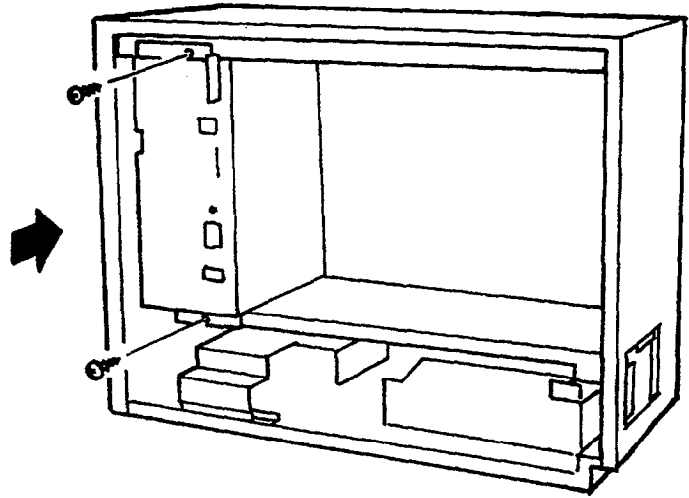

Figure 3-28 Installing the PSF-S-20 PSU in the Level II Basic KSU
1. Install the PSF-S-20 PSU in the left slot of the Basic KSU and secure using the two provided bolts. Refer to Figure 3-28 - Installing the PSF-S-20 PSU in the Level II Basic KSU.